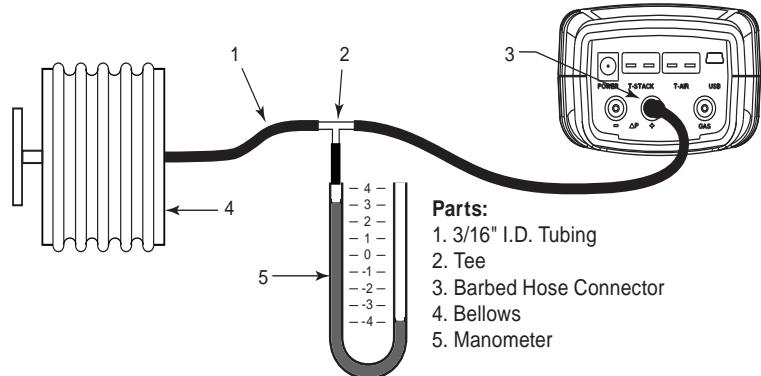

Figure 5-1 Pressure Sensor Calibration Equipment
1. Assemble the pressure sensor calibration equipment as shown in Figure 5.1, but DO NOT connect the analyzer to the calibration equipment at this time.